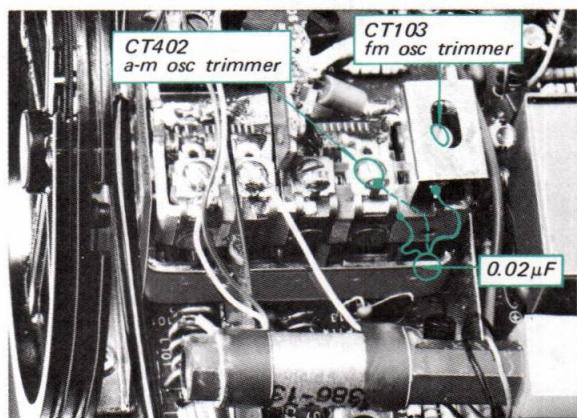

Fig. 3-2. Interruption of fm or a-m local oscillator
**Note:** Two methods of if discriminator alignment are available, sweep generator alignment and signal generator alignment. You can use either of them. In either case, the local oscillator should be killed. To stop the local oscillator's operation, remove the shield cover over the local oscillator capacitor, if necessary, and then shunt the oscillator capacitor with a  $0.02\mu F$  capacitor. See Fig. 3-2.